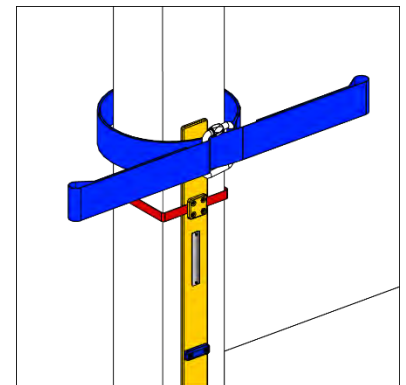

Figure 40
- iv) Wrap the Blue Noose Belt around the column, and pass both ends of the strap through the quick link (Fig. 40).